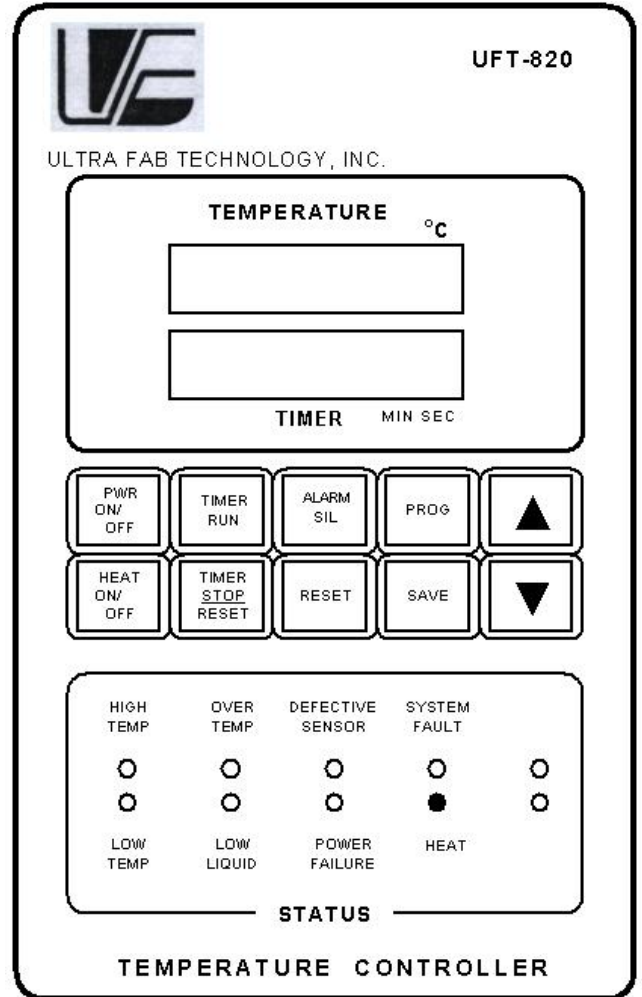

Figure 3
UFT-820 TEMPERATURE CONTROLLER (Figure 3)
POWER ON/OFF	Turns on/off the master power for the temperature controller (Figure3).
- 9.4.1 Add 100 ml hydrogen peroxide to the heated sulfuric acid bath, which is kept at 120°C to activate (spike) the piranha (see Figure 3 for more details on the temperature controller display).
10.5 Status Indicators on Temperature Control Panel (Figure 3):